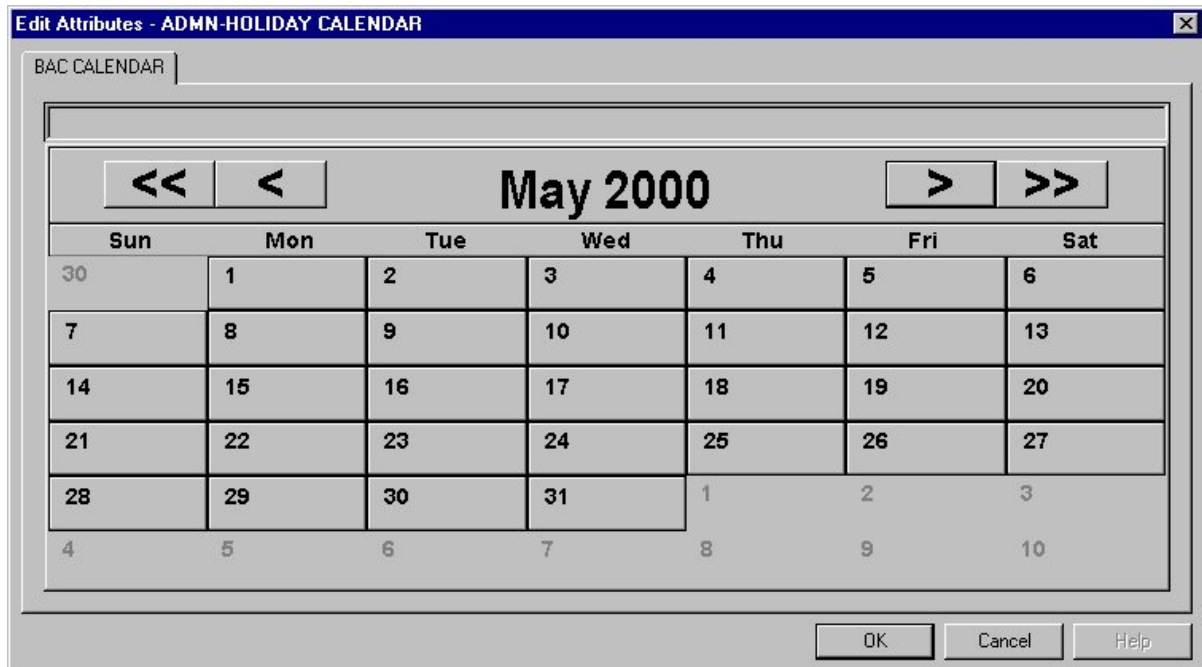

Figure 9-2: BAC Calendar Object Edit Attributes Screen
2. Select Edit Object from the Edit menu, or double-click the row header for the calendar with which you want to work. The BAC Calendar object Edit Attributes screen appears (Figure 9-2).
2. Select Edit Object on the Edit menu, or double-click the row header for the calendar with which you want to work. The BAC Calendar object Edit Attributes screen appears (Figure 9-2).
6. Click OK to return to the BACnetCalendar Edit Attributes screen when all days have been entered (Figure 9-2). The dates you have added to the Calendar appear highlighted.